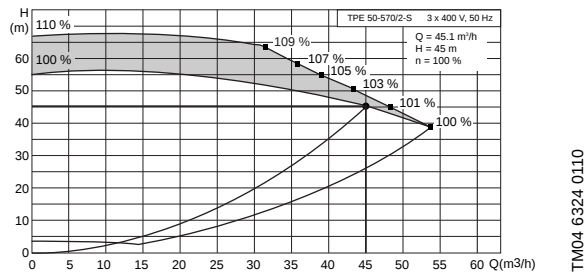

Fig. 18 TPE(D) pumps with extended performance range
Standard TPE(D) pumps, 50 Hz, are able to operate in a range above the 100 % curve. See fig. 18.